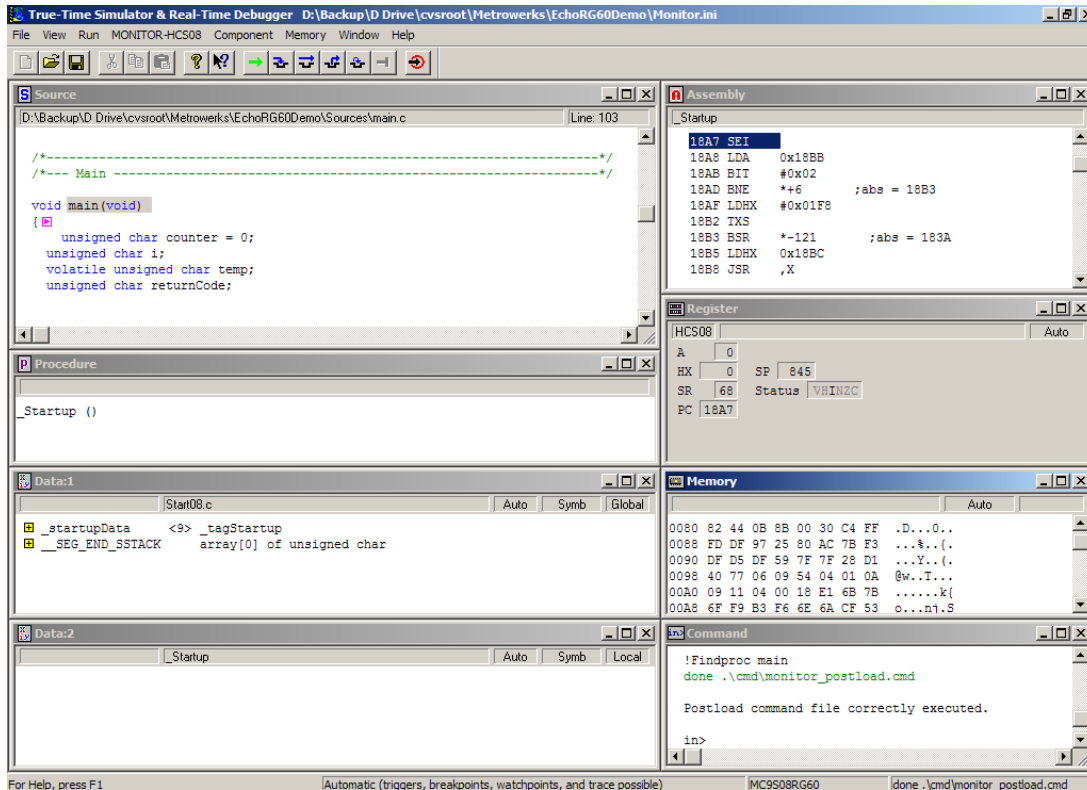

Figure 2. Screen Shot of Debugger After Programming
11. If the MCU's Flash memory is blank, the debugger will program the Echo demo into memory. You should see the screen shot shown in Figure 2 when programming completes. Go to step 15.
14. The debugger will program the demo into the MCU's Flash memory. You should see the screen shot shown in Figure 2 when programming completes.